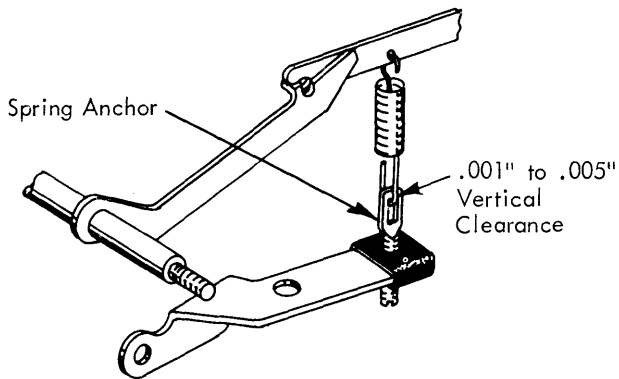

FIGURE 118. Spacebar Repeat Stop (New Style)
- b. New Style - The spring anchor should be adjusted up or down so that .001" to .005" clearance exists between the spring and the anchor, when a single operation takes place as the spacebar is depressed slowly (Fig. 118).